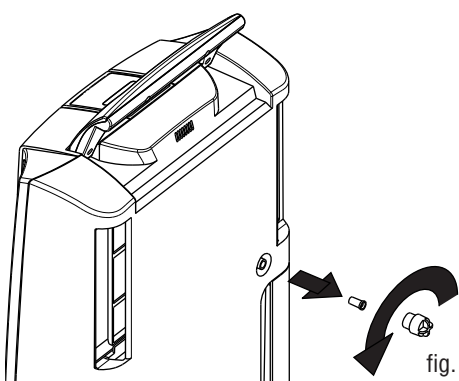

fig. 2
- 1) Remove the continuous drain cap by turning it anticlockwise then remove the rubber bung from the spout (fig. 2).